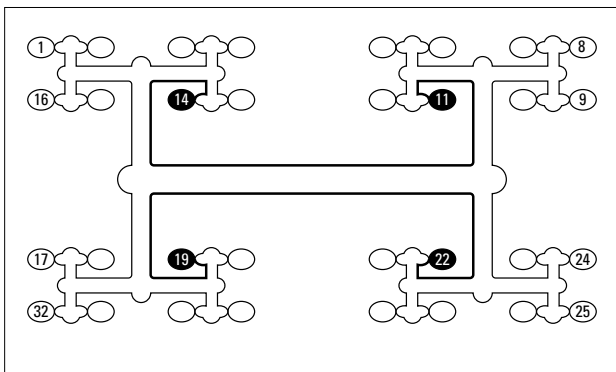

Fig. 4.11 Example of “spiral effect” in a 32-cavity mould. Cavities 11, 14, 19, 22 will be filled first and may show splays and mould deposits
In case of multi-cavity moulds ( $\geq 16$  cavities), the so-called “spiral effect” could take place in the “internal” cavities of the layout (see for instance Fig. 4.11), due to over-heating of the melt in runners, caused by localised shear. To minimize negative effect like splays or mould deposit, shear should be reduced by using appropriate runner dimensions.
8. Balanced runners recommended (see Fig. 4.11).